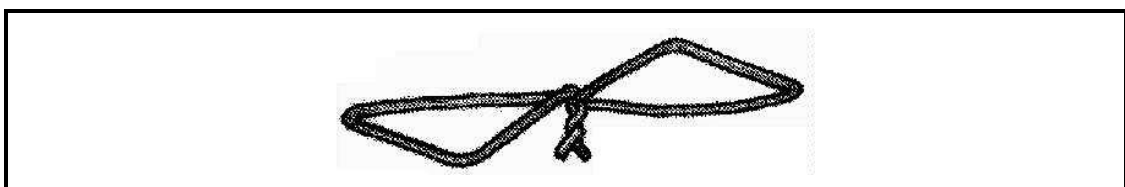

FIGURE 5.3
5.3 Answer the following in regard to the wall tie in FIGURE 5.3.